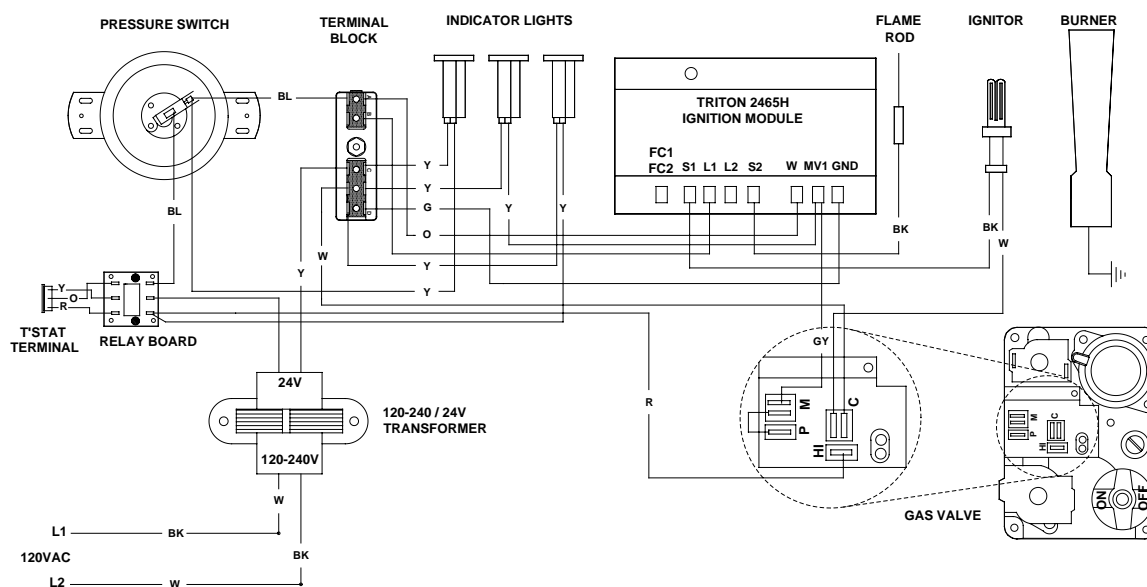

Figure 4-1 Block Wiring Diagram
3. The system must be installed in accordance with the typical wiring diagrams (see Figures 4-1 & 4-2).
Starting Circuit (Figures 4.1 and 4.2)